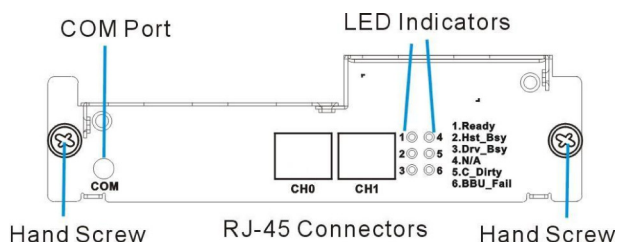

**Fig. 7.1** Power Supply Module
1. Connect the two (2) provided power cables to the power sockets on the back of the system (see *Figure 7.1*).
4. Power on the subsystem by turning on both power switches on the rear panel of PSU modules. For the location of the power switches, please see *Figure 7.1*.